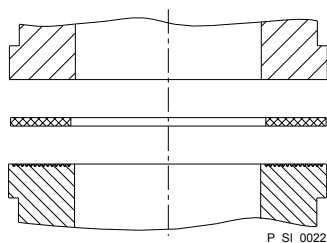

Fig. 17: Elastomer flat seal with an insert without flare
- In the event that an unflared insert is used (e.g. third party part), an elastomer flat seal must be used - see Fig. 17.